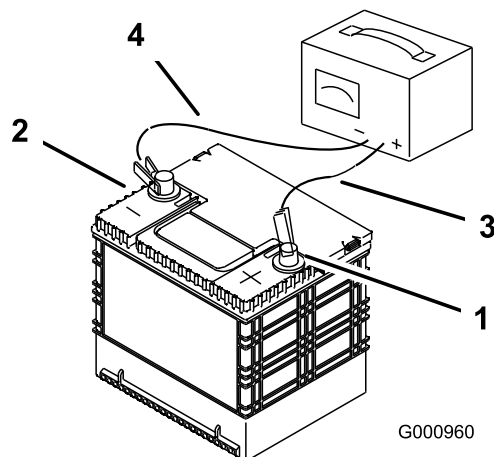

Figure 57
3. When the battery is fully charged, unplug the charger from the electrical outlet, then disconnect the charger leads from the battery posts (Figure 57).